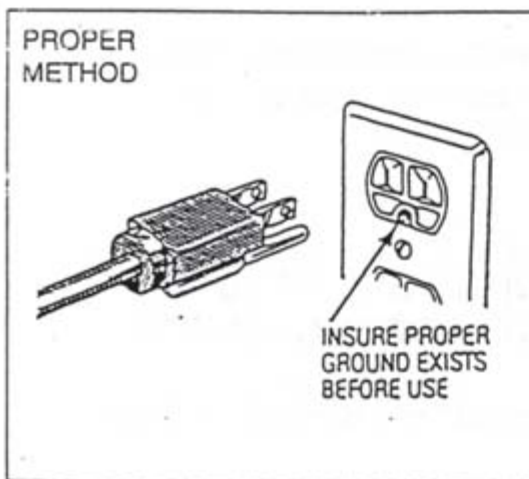

Fig. 8-1 RIGHT
- 6.) **THIS MACHINE IS PROVIDED WITH A THREE-PRONG GROUNDING PLUG. THE OUTLET TO WHICH THIS PLUG IS CONNECTED MUST BE PROPERLY GROUNDED. IF THE RECEPTACLE IS NOT THE PROPER GROUNDING TYPE, CONTACT AN ELECTRICIAN. DO NOT UNDER ANY CIRCUMSTANCES CUT OR REMOVE THE THIRD (GROUND PRONG) FROM THE POWER CORD OR USE ANY ADAPTER PLUG. (SEE FIG. 8-1, 8-2)**